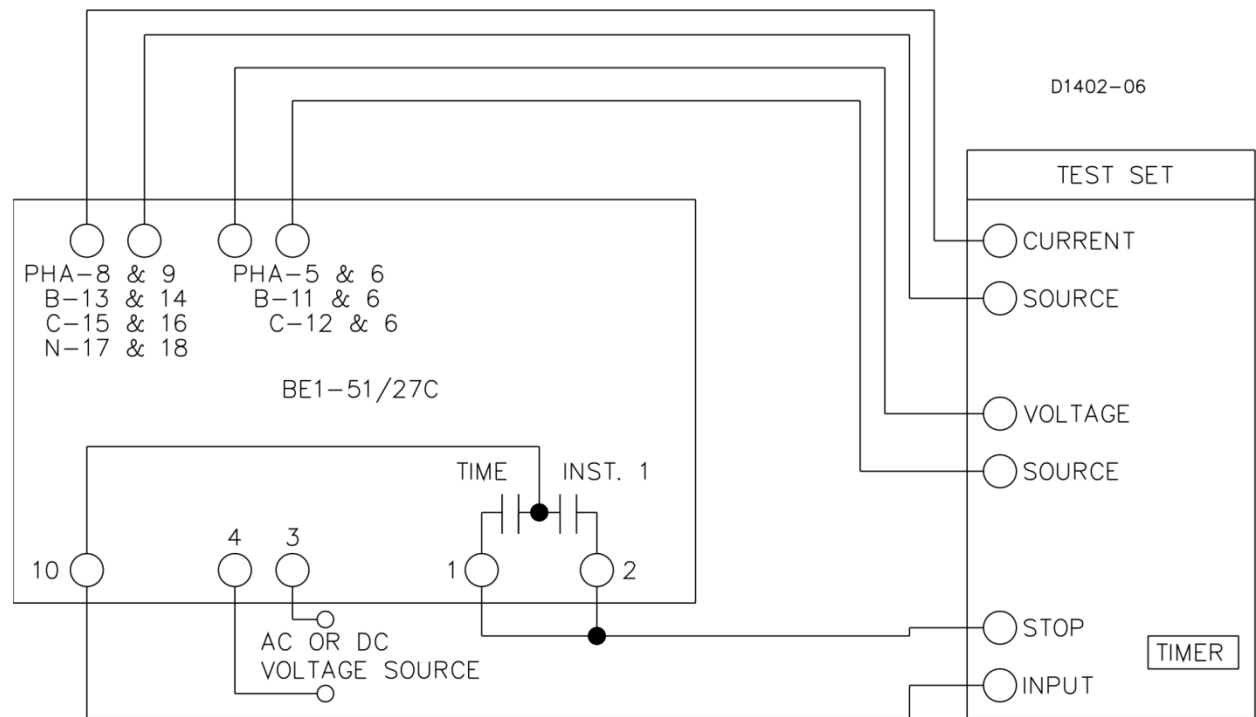

Figure 5-3. Test Setup for Sensing Input Type T (Three-Phase with Neutral Sensing)
- (c) Sensing Input Type T (Three-Phase with Neutral Sensing). Refer to Figure 5-3.
(d) Sensing Input Type D and T (Three-Phase with Neutral Sensing). Remove the power and reconnect the input sensing to each of the remaining phases as shown in Figures 5-3 and 5-5, each time repeating Steps 1 through 10. For neutral testing, continue with Step 12.
For the neutral sensing (terminals 17 and 18), connect the relay as shown in Figures 5-3 and 5-5, then perform the following steps (Steps 13 through 21).
Step 11. Remove the power and reconnect the test output to the neutral current sensing input of the relay as shown in Figures 5-3 and 5-5 (terminals 17 and 18).
**RESULTS:** (1) The front panel **TIMING (NEUTRAL)** indicator extinguishes.
(2) The test setup timer stops. (Record count for use in Step 20.)